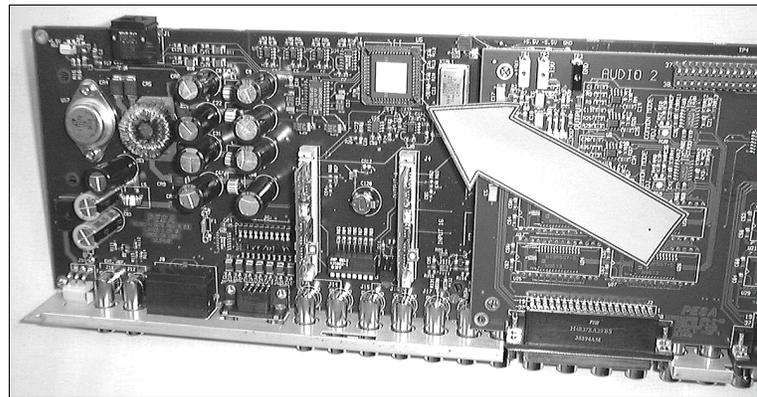

Figure 1. Orientation View
4. Locate U5 on the motherboard as shown by the arrow in Figure 1.